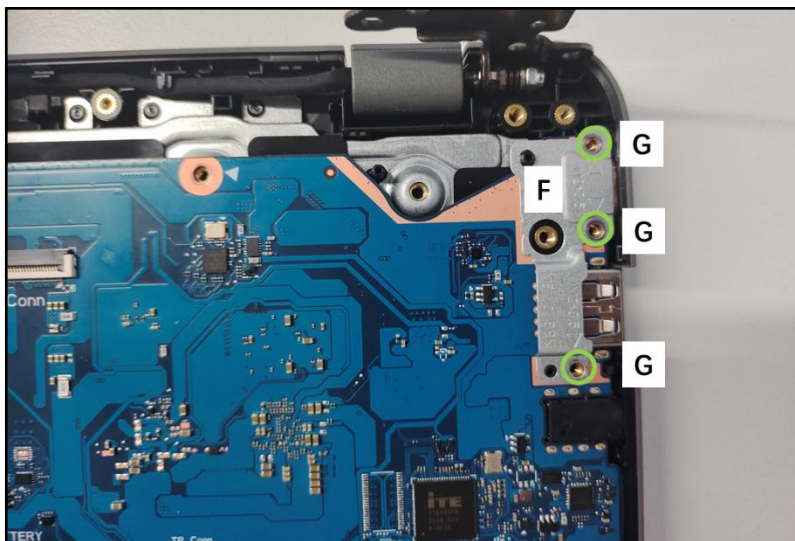

Figure 3-86. Replacing the Mainboard
5. By aligning with the I/O port slot, slide and install the I/O bracket (F) onto the mainboard. Ensure that the bracket is fully seated and secured to the guide pins (G) (Figure 3-86).